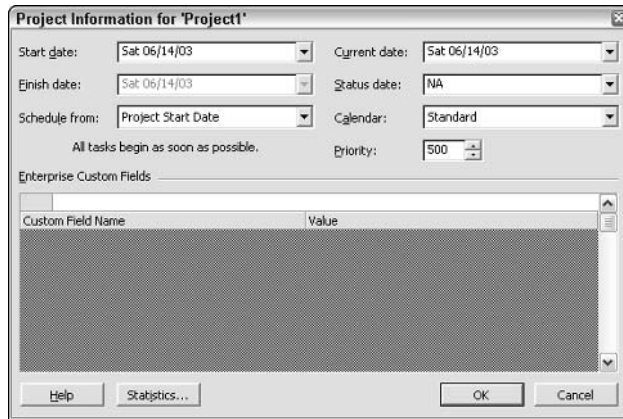

Figure 15-1: Use the Project Information dialog box to set basic project information.
3. Click the New button to start a new project, and use the Project Information dialog box that appears, as shown in Figure 15-1, to set basic project information, such as the project's start date and scheduling method.